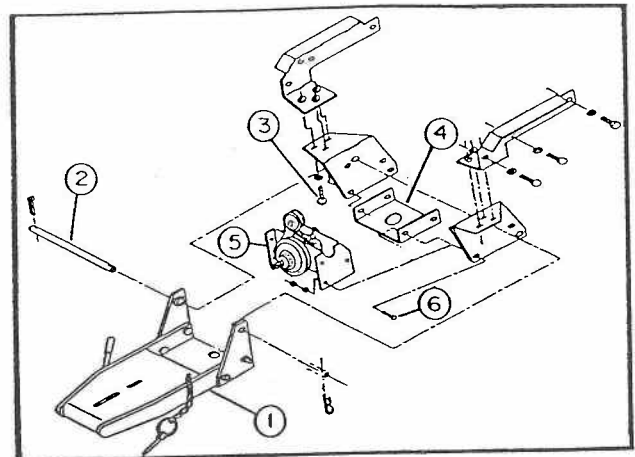

FIGURE 1
- a) Remove male hitch (fig.1, item 1) from attaching plates by removing the 5/8" x 10 5/8" pin (fig.1, item 2).
- b) Loosen the six bolts (fig.1, item 3).
- c) Remove the reinforcement plate (fig.1, item 4) and discard, leaving front of subframe flatbars installed on attaching plates.
- e) Install drop box (fig.1, item 5) inside attaching plates and route belt around drop box pulley, placing spring loaded idler outside right hand portion of belt. Secure drop box using six 5/16" x 3/4" bolts (fig.1, item 6), lockwashers and nuts. Tighten securely.
- g) Install male hitch assembly outside attaching plates using pin (fig.1, item 2) and hair pin.